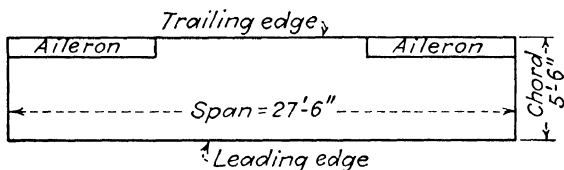

Fig. 68.—Airplane wing, top view.
8. Find the area in square feet of the airplane wing shown in Fig. 68.